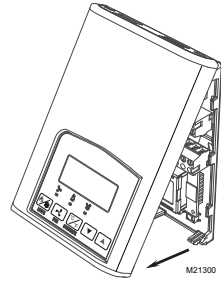

Fig. 1. Remove cover of thermostat
1. Open up by pulling on the bottom side of thermostat. (Fig. 1)